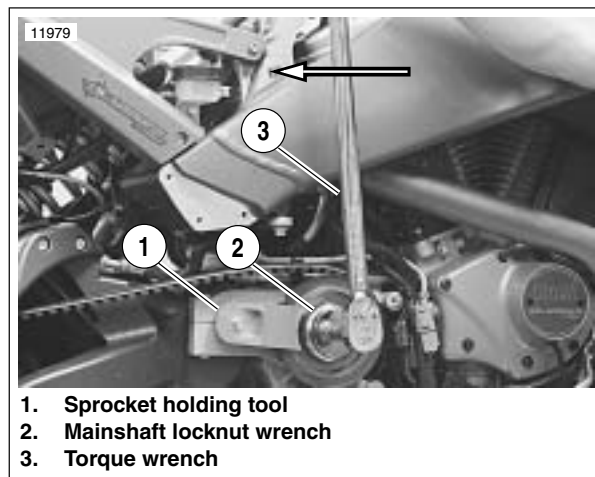

Figure 6-103. Transmission Sprocket Tightening (Typical)
5. See Figure 6-103. Install SPROCKET HOLDING TOOL (Part No. B-43982) as shown.